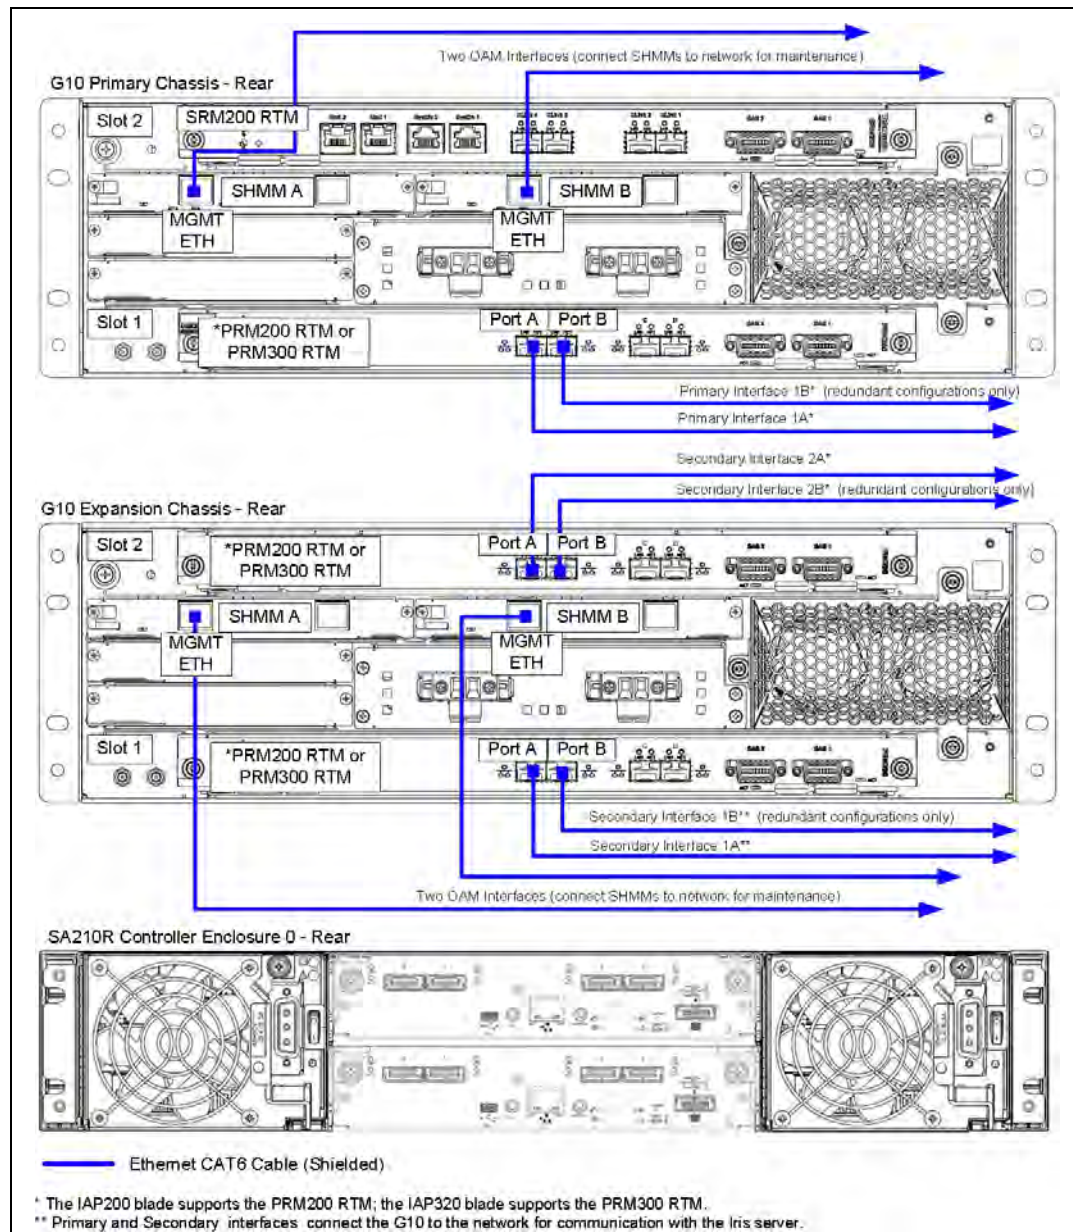

Figure 3.2 - Ethernet Connections from G10 to LAN
2. Use Figure 3.2 to connect Ethernet cables from the G10 chassis to your LAN.